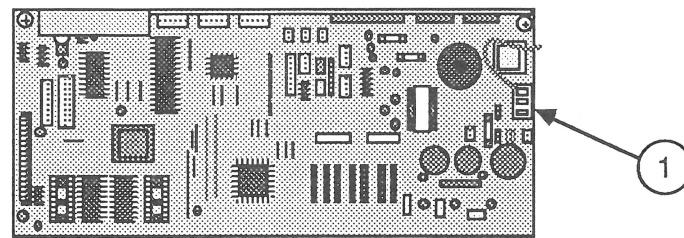

FIGURE 33-A
2. Disconnect the transformer cable from main board connector CN1 (Figure 33-A, #1).